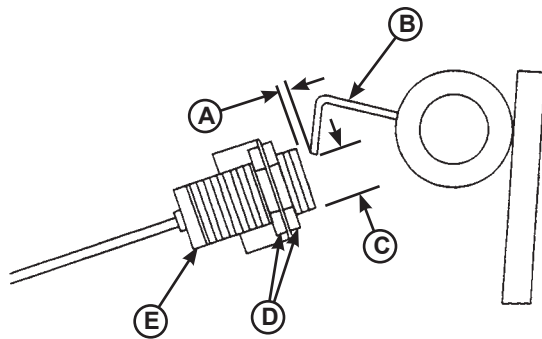

Figure 28
**Note:** Distances (A and C) in Figure 28 are typical factory settings. Use these dimensions only as a starting point when adjusting the proximity switch and target, especially if switch and/or target have been replaced.